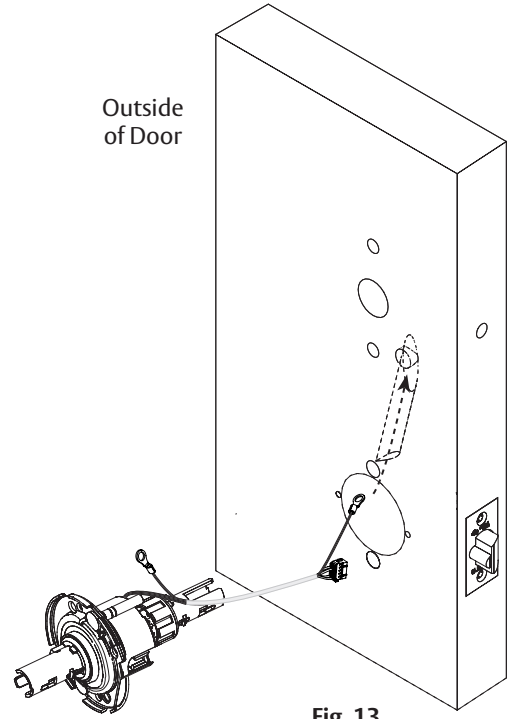

Fig. 13
- a. From outside of door feed lockbody harness into lockbody hole. (Fig. 13)